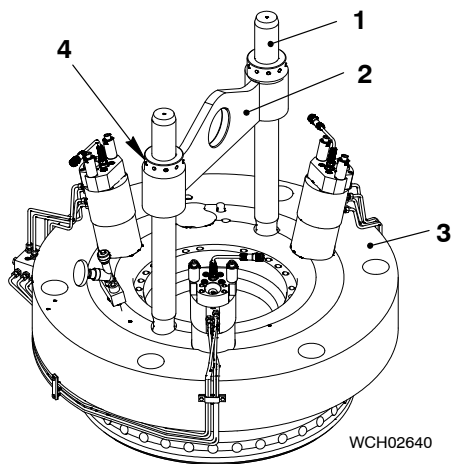

Fig.8
- 13) Operate the engine room crane to lower the suspension device (34.9 kg) (2, Fig.8) on to the elastic studs (1).
- 14) Attach the round nuts (4) to the elastic studs (1).
- 15) Operate the engine room crane to move the cylinder cover (3) to an applicable area.